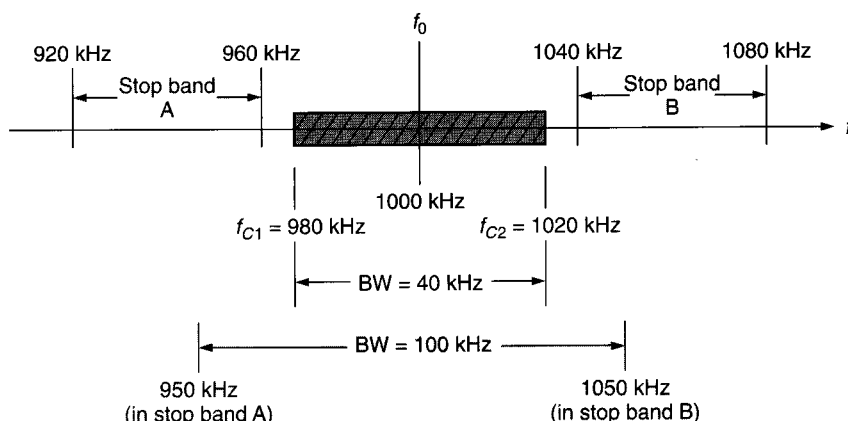

FIGURE 17.4 Frequency bands.
The first statement almost goes without saying. As with any circuit, the closer a tuned circuit comes to its ideal characteristics, the better. (This has been the case with every component and circuit we have discussed.) The second statement warrants discussion. In Chapter 14, we viewed the frequency response of an amplifier as being a *limitation*. In other words, we normally consider an *infinite* bandwidth to be ideal. This is not the case with tuned amplifiers. *With tuned amplifiers, we want a specific—usually narrow—bandwidth.* For example, take a look at Figure 17.4. Here we see a *pass band* (shaded) with two *stop bands*, A and B. If a tuned amplifier is designed to have a center frequency of 1000 kHz and a bandwidth of 40 kHz, that amplifier can pass all the frequencies within the pass band while rejecting all those in either of the stop bands. However, if we used a tuned amplifier with the same center frequency and a bandwidth of 100 kHz, that amplifier would pass a portion of the frequencies in both stop bands. This is not an acceptable situation. A tuned amplifier must pass all the frequencies within the pass band while stopping all others. Therefore, we want a given tuned amplifier to have a specific, usually narrow, bandwidth. With this in mind, let’s take a look at the relationship between roll-off rate and bandwidth.
The frequency ranges shown in Figure 17.4 could represent the frequency ranges of three AM radio stations. If the tuned amplifier has a bandwidth of 40 kHz, it will pick up only the radio station to which it is tuned (the center station). If the tuned amplifier has a bandwidth of 100 kHz, it will not only pick up the center station, it will pick up portions of the other two station signals as well.
amplifiers. The curves indicate that the circuits have the same geometric center frequency ( $f_0$ ), yet the circuit with the lower roll-off rate has a much greater bandwidth. If we apply this principle to the frequency groups in Figure 17.4, we can see that we must limit the roll-off rate of a tuned amplifier if it is to be used for a specific application. The roll-off rate and bandwidth of a tuned amplifier are controlled by the *quality* ( $Q$ ) of the circuit.
What is the required  $Q$  of a tuned amplifier used for the application shown in Figure 17.4?
**Solution:** The pass band in Figure 17.4 has a geometric center frequency of 1000 kHz and a bandwidth of 40 kHz. Using these two values, the required  $Q$  is found as